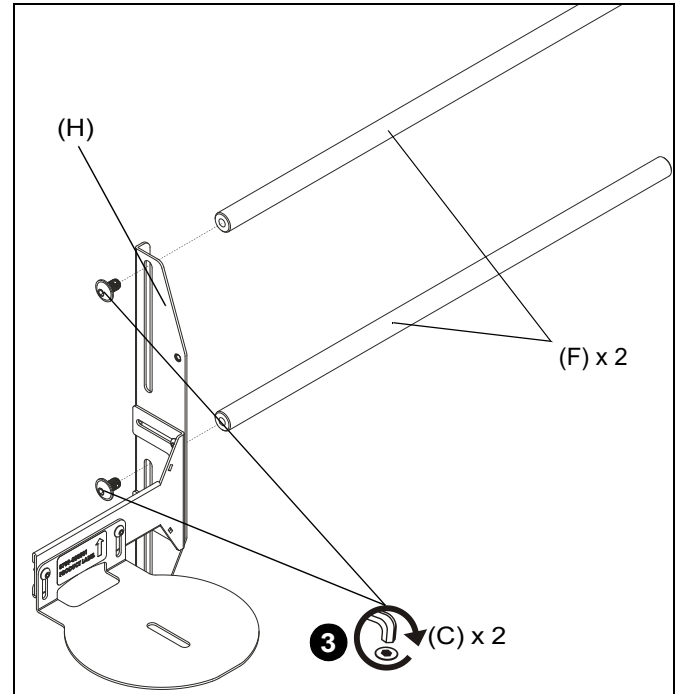

Figure 2
3. Use two 5/16-18 x 1/2" button head cap screws (C) to secure vertical bracket to two extension bars (F). (See Figure 2)